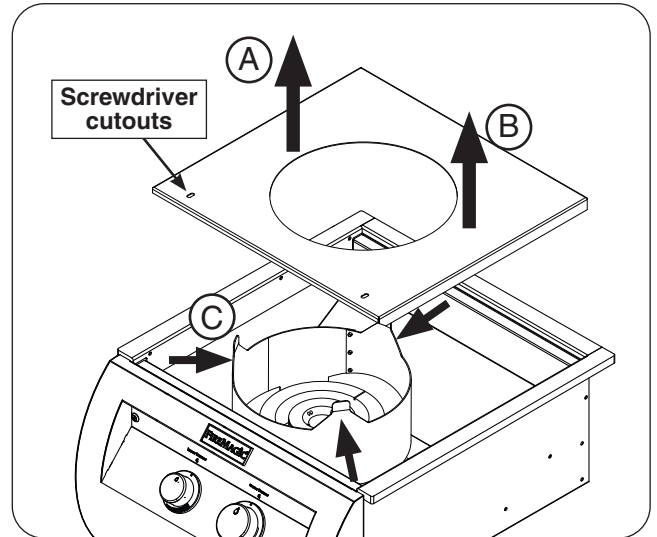

Fig. 32-1 Interior protection plate removal
2. Lift up the interior protection plate from the left side, then lift up from the right side (see Fig. 32-1, A and B).
3. While lifting the plate upward, flex the collimator inward to completely free the protection plate (see Fig. 32-1, C).